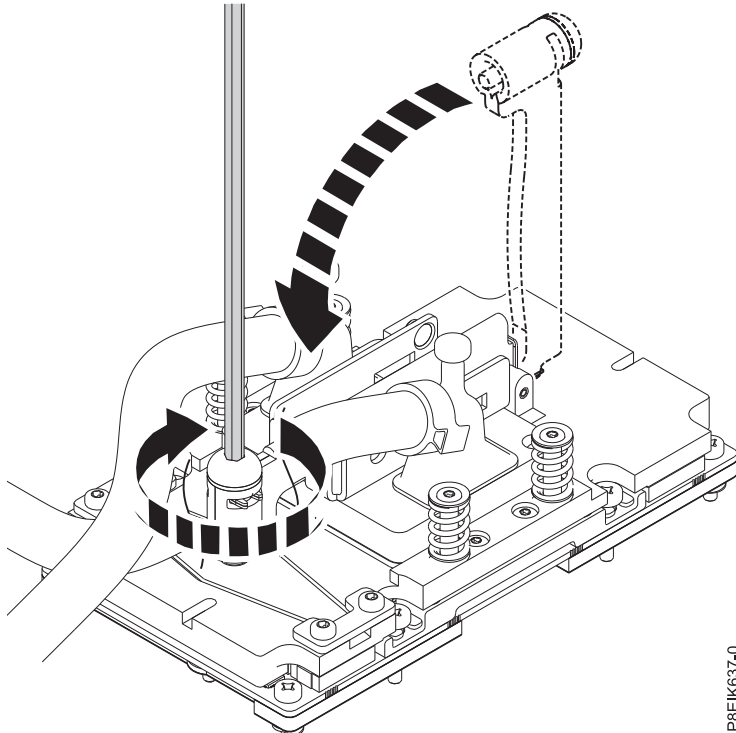

Figure 85. Secure the cold plate retainer screw
- b. Swing the retainer over the GPU and code plate, then tighten the cold plate retainer screw as shown in Figure 85 on page 70.